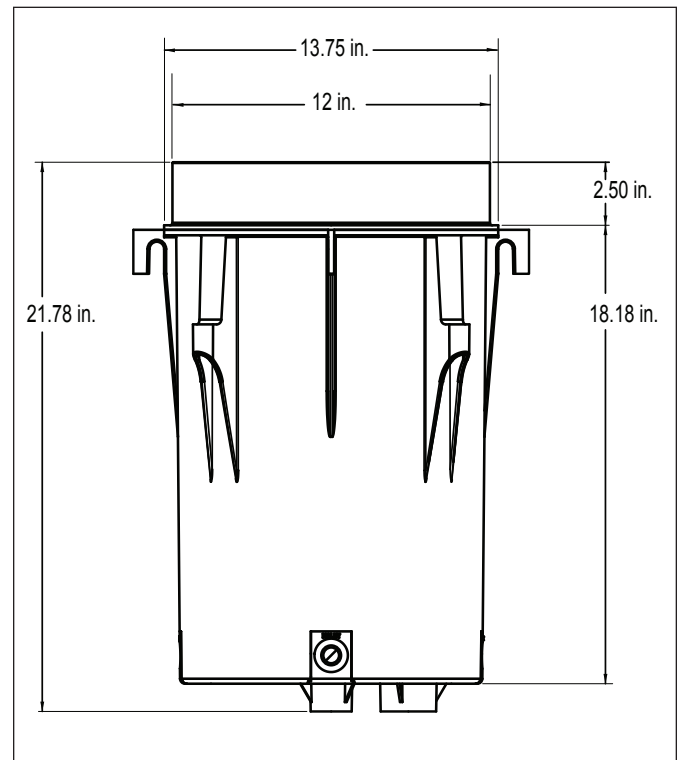

Figure 4. Deck Canister Dimensions
1. Dig the hole for the deck canister approximately 24 inches deep and 18 inches in diameter. This will ensure enough room for positioning the canister and laying out the plumbing. This depth also allows for the addition of a layer of pea gravel (1/8 to 1/4 size) for stability and additional drainage. Refer to Figure 4 for deck canister dimensions.